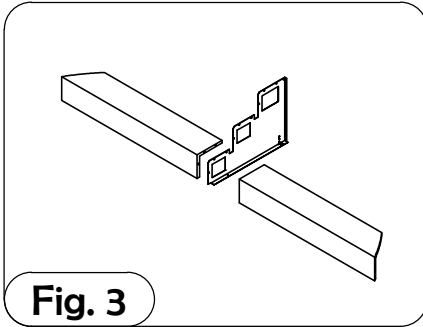

Fig. 3
3. Bolt left and right bottom steps together and through stair brace (Fig. 3).